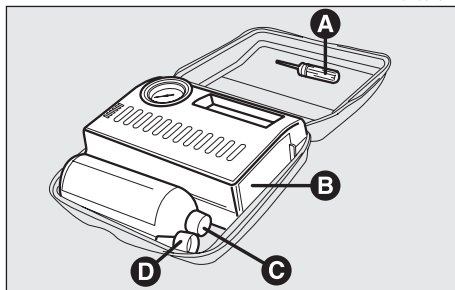

fig. 12
The quick repairing kit includes (**fig. 12**):
*Warning! The bottle (C-fig. 12) contains propylene glycol. This substance is toxic: do not swallow it and avoid contact with the eyes, the skin and the clothes. In case of contact, rinse with abundant water. If any allergy reaction should take place call a medical doctor. Keep the bottle cylinder in the appropriate compartment away from heat and children.*